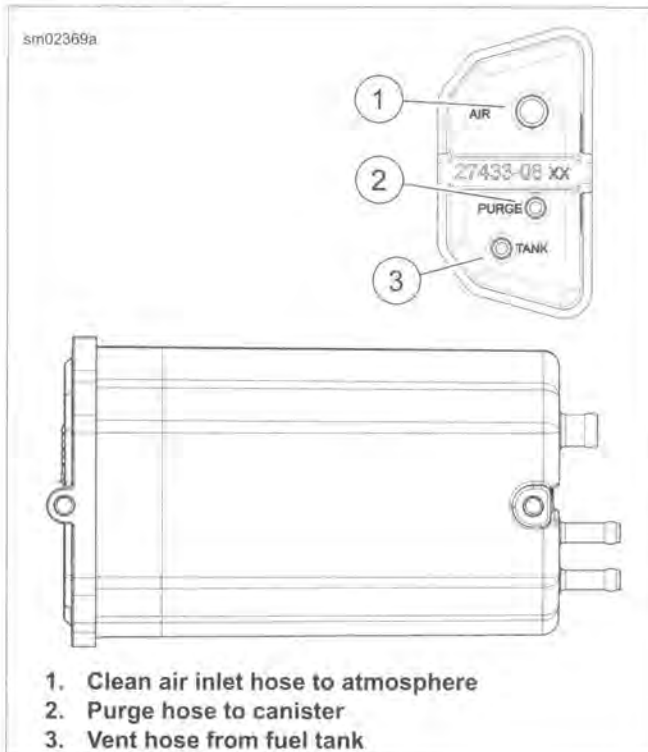

Figure 4-72. Charcoal Canister Connections
See Figure 4-72. Note the two hose connections on the lower left side of the charcoal canister.
3. See Figure 4-72. Attach hoses to charcoal canister nipples as marked.